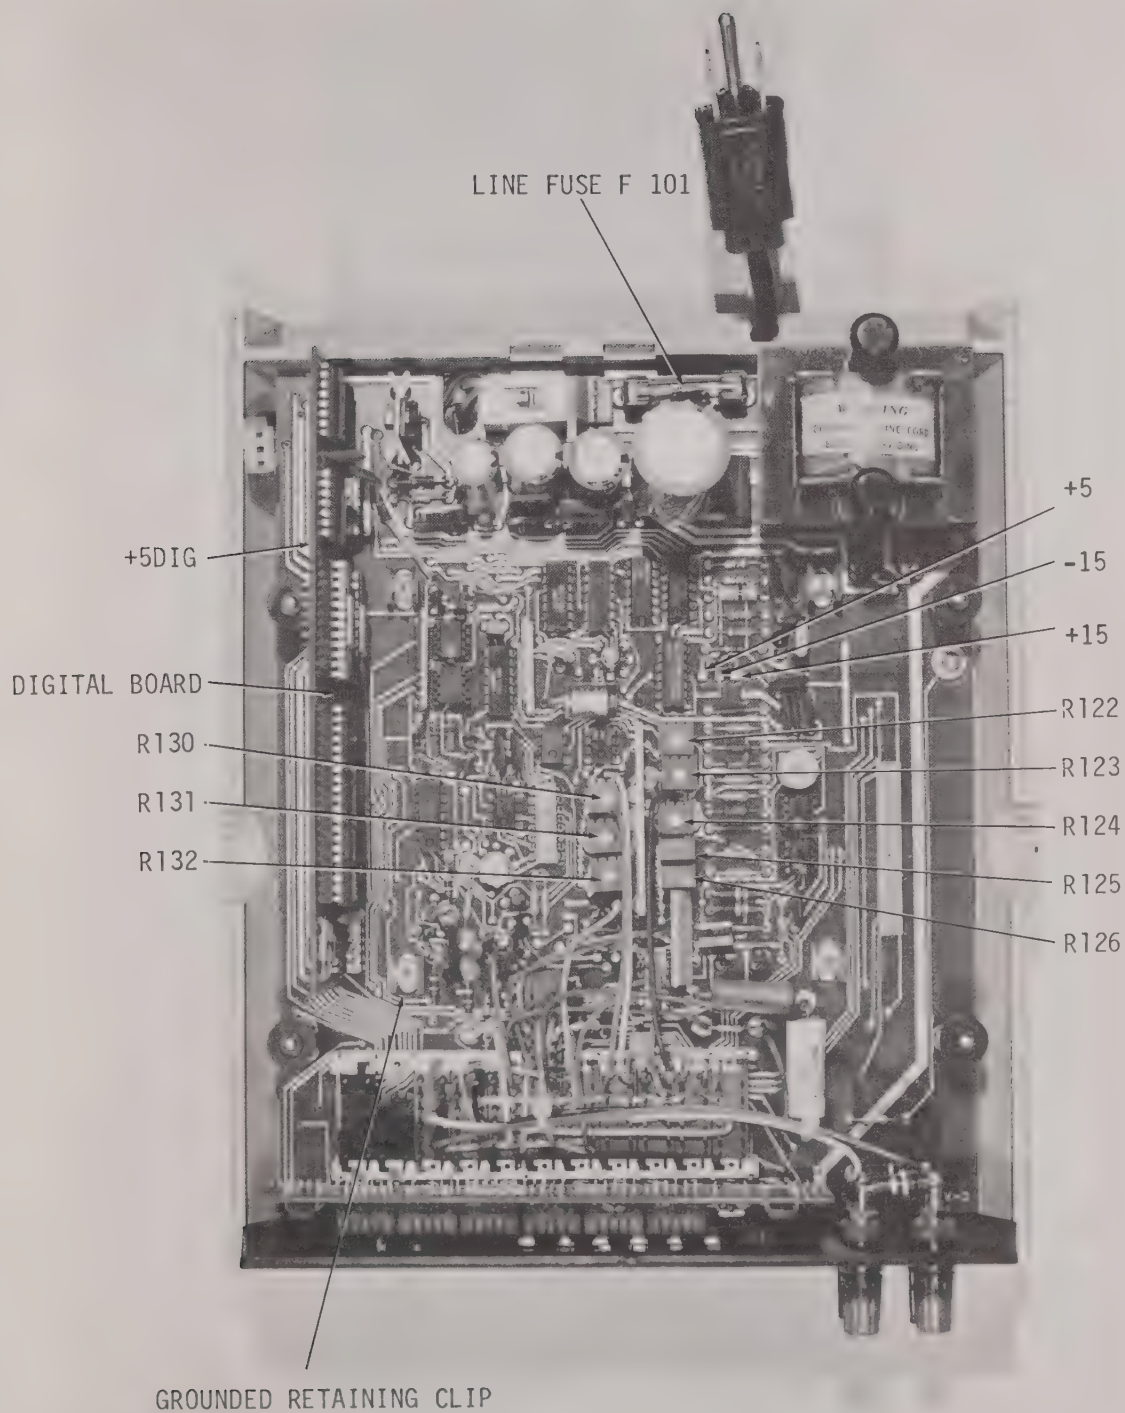

FIGURE 6-2. Model 191 (Shield Removed)
b. Remove mother board shield by carefully lifting shield from the retaining clips. To reinstall, position shield on the four retaining clips so that the small bent tab on side of shield is positioned against the grounded retaining clip (See Figure 6-2). This tab prevents the shield from moving too far towards the rear of the mother board. Press firmly on top of shield to engage fully into retaining clips.
** Refer To Figures 6-2 and 6-3 for location of Adjustment Points.
* On main printed circuit board (see Figure 6-2).